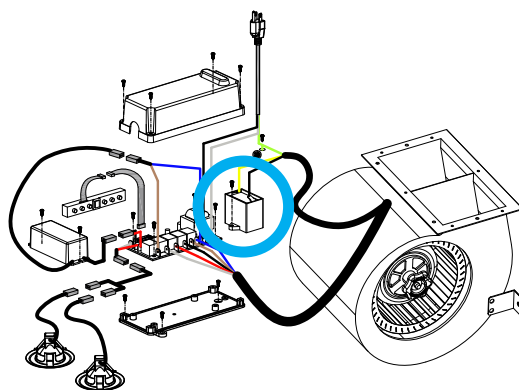

Figure 1
3. Remove the screw securing the capacitor (circled in blue) to the circuit board. *Figure 1*
2. Remove screws from the circuit board (circled in blue) cover in a similar fashion. *Figure 1*